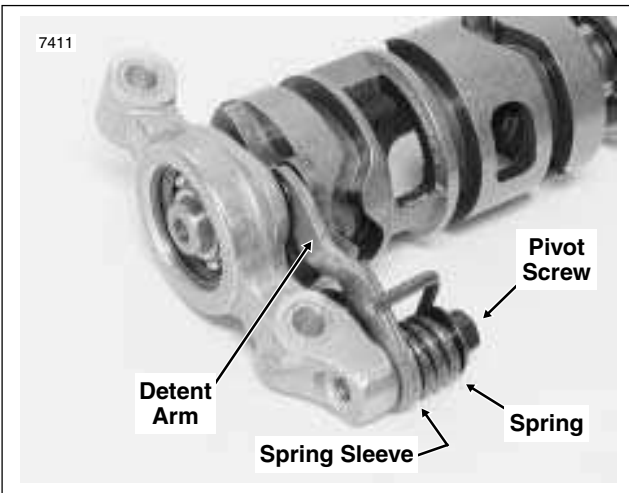

Figure 7-11. Shifter Cam Assembly
- d. Hold spring so that ends are pointing to the right. Insert long end of spring sleeve into right side of spring. Insert pivot screw into left side of spring sleeve. With roller facing screw head, slide detent arm onto short end of spring sleeve positioning arm between spring ends. Start pivot screw into threaded hole in right support block positioning support block between spring ends. Tighten pivot screw to 84-108 **in-lbs** (9.5-12.2 Nm). Retract detent arm and slide right support block onto end of shifter cam. See Figure 7-11.